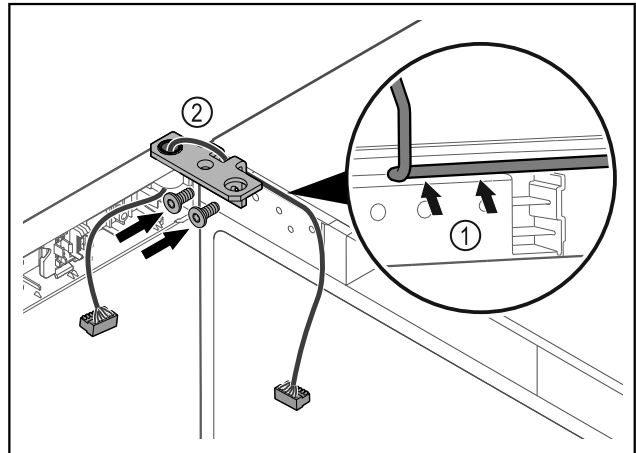

Fig. 48
- Feed the cable through the recess in the hinge and lay it carefully Fig. 48 (1).
- Screw on the hinge Fig. 48 (2).